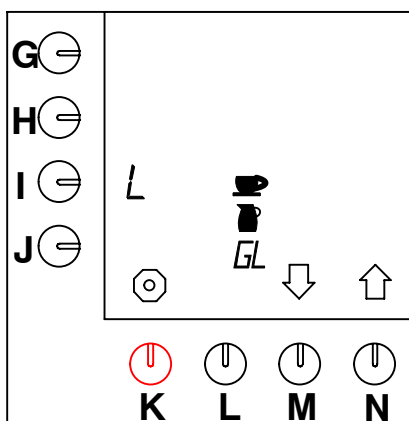

Fig. 31 Units to be selected
- A selection can be made from the following units: Litre = L, Gallon = GL (3.7853 L), Jug, or Cup (fig.31).